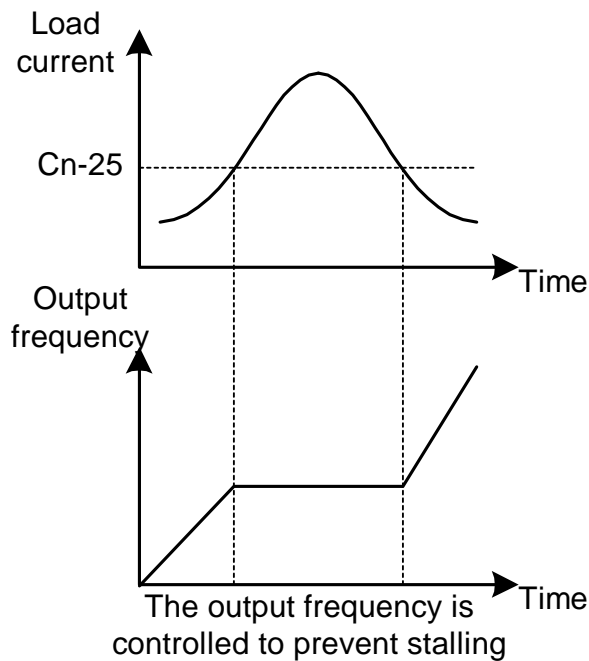

Fig. 22 Acceleration stall prevention function
- b. When the fault-reset input is received after the protection operation has been activated and the fault confirmed. (e.g., by pressing  or enable Fault reset terminal ③)
(19) Stall Prevention Level During Acceleration (Cn-25)
(20) Stall Prevention Level During Running (Cn-26)
- Stall Prevention During Acceleration : See Fig.22. Stop acceleration if Cn-25 setting is exceeded. Accelerate again when the current recovers.